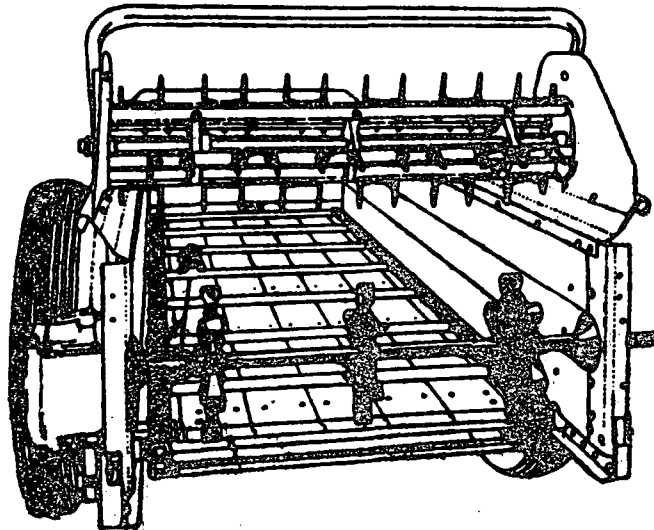

Fig. 2
*Shredder.* It consists of two beaters, of different diameters, one above and the other below, which turn at different speeds shredding the material (Fig. 2).